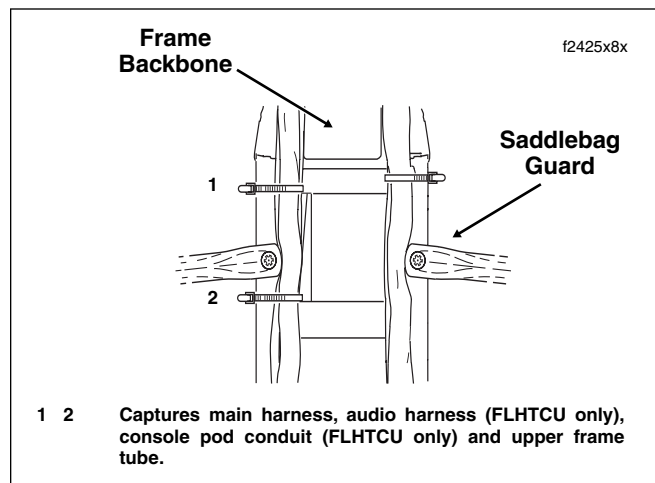

Figure 8-168. Capture Main Harness Conduit
36. Install two **new** cable straps to secure main harness to left upper frame tube. Cut any excess cable strap material. See Figure 8-168.